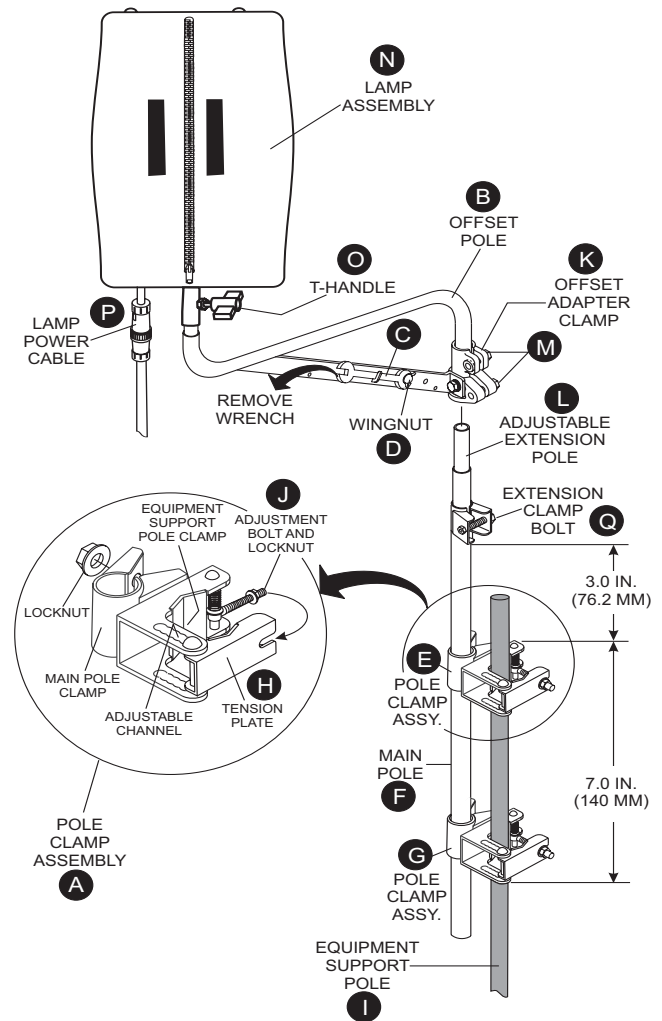

Figure 1. Offset Pole Assembly
Refer to Figure 1 for the following procedure.
- Remove the offset pole (B) from the shipping container.
- Attached to the offset pole is a 17/19 mm open-end wrench (C). Remove the wingnut (D) securing the wrench to the offset pole and remove wrench.
- Remove the two pole clamp assemblies (A) from the shipping container. Attach one pole clamp assembly (E) to the main pole (F) about 3 inches (76.2 mm) down from the main pole extension clamp. Using supplied 19 mm wrench, tighten locknut on the pole clamp assembly securely.
- Attach the other pole clamp assembly (G) to the main pole (F) about 7.0 in. (140 mm.) down from the previous attached pole clamp assembly (E). Using the 19 mm wrench, tighten locknut on the pole clamp assembly securely.
- To attach main pole (F) to equipment support pole (I), swing open adjustable tension plate (H) on clamp so that it can accommodate the diameter of the equipment support pole. Insert equipment support pole (I) through the two equipment support pole clamp assemblies as shown in Figure 1.
- Once the equipment support pole (I) has been seated properly, move adjustment bolt and locknut (J) into locking position. Use the supplied 17 mm wrench, to tighten locknuts (J) on both clamps securely.
1. Before raising the extension pole, make sure the T-handle bolt lock (Figure 1-O) is securely tightened. This will prevent the balloon/lamp assembly from falling off. In addition make sure that the lamp power cable is connected to the mating end of the power source cable.
2. Raise extension pole (Figure 1-L) to desired height. Watch out for any overhead obstructions.
3. Using 19 mm wrench, tighten extension clamp bolt (Figure 1-Q) securely. Keep wrench in a safe place where it will not get lost.
1. Using the supplied 19 mm wrench, **loosen** extension clamp bolt (Figure 1-Q).
2. Carefully pull down on the adjustable extension pole (Figure 1-L) and lower lamp assembly.
3. Remove wingnut (Figure 1-D) from offset pole (Figure 1B) and insert wrench into wrench holder. Reinsert wingnut and tighten.
6. Loosen T-handle bolt (Figure 1-O) by turning counterclockwise and remove lamp assembly (Figure 1-N) from offset pole.